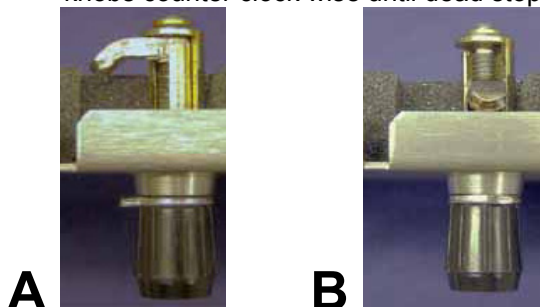

Fig. 9 Column compartment interlocks, A opened, B closed
4. Before closing the compartment again make sure that both interlocks are totally opened (compare Fig. 9 A). Otherwise screw both black knobs counter clock wise until dead stop.
6. Slightly pressing the side panel against the oven screw both black knobs clock wise until dead stop (Fig. 9 B).